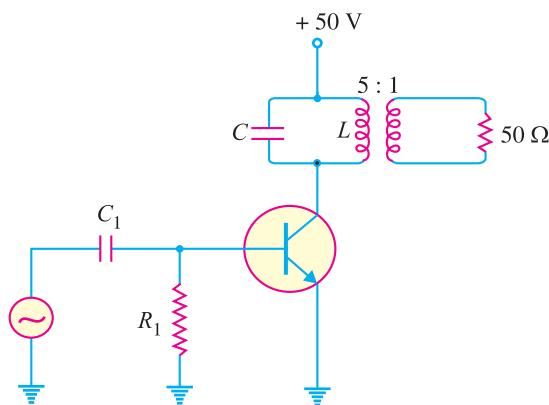

Fig. 15.24
**Example 15.10.** Calculate (i) a.c. load (ii) maximum load power in the circuit shown in Fig. 15.24.